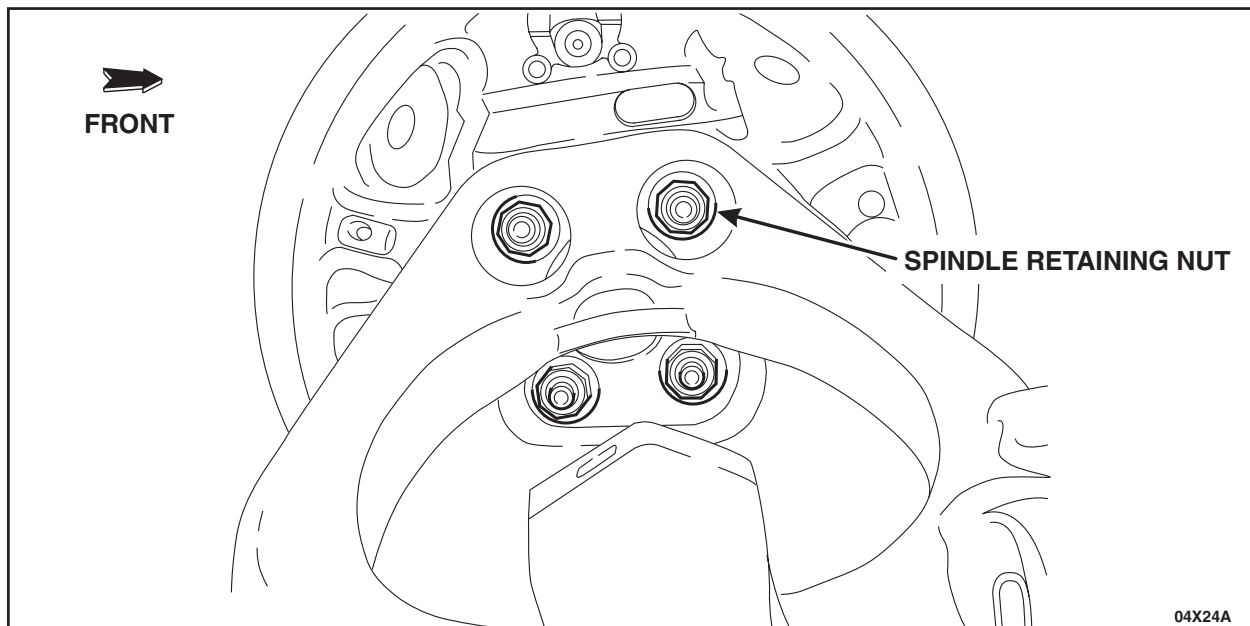

FIGURE 4
7. Remove the four spindle retaining nuts. See Figure 4.
15. Install the four spindle retaining nuts. See Figure 4.